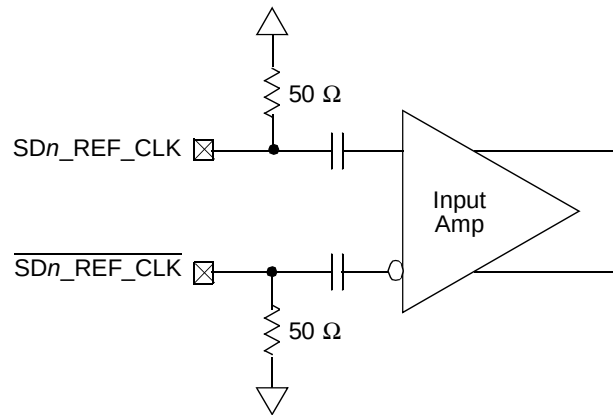

Figure 46. Receiver of SerDes Reference Clocks
- The SD_REF_CLK and $\overline{\text{SD_REF_CLK}}$ are internally AC-coupled differential inputs as shown in Figure 46. Each differential clock input (SD_REF_CLK or $\overline{\text{SD_REF_CLK}}$) has a 50- Ω termination to SGND_SRDS followed by on-chip AC-coupling.